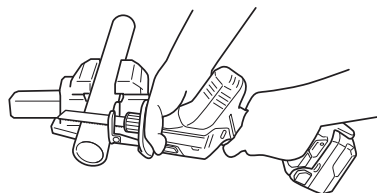

Fig. 23
- (1) Fasten a workpiece firmly before operation. (Fig. 23)
- (2) When cutting metallic materials, use proper machine oil (turbine oil, etc.). When not using liquid machine oil, apply grease over the workpiece.